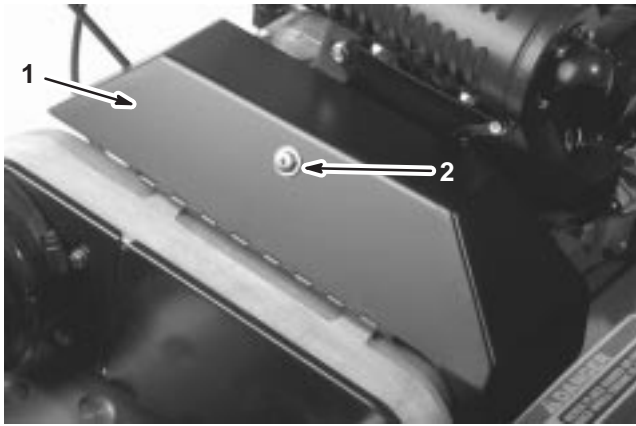

Figure 40
2. Loosen the retainer securing the V-belt cover and pivot the cover open (Fig. 40).